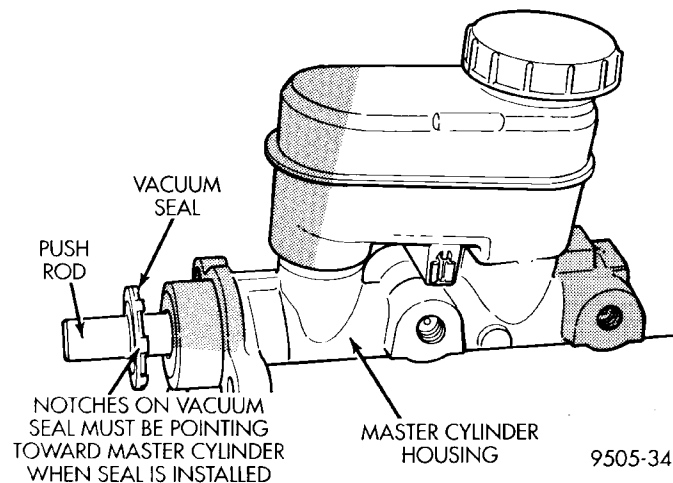
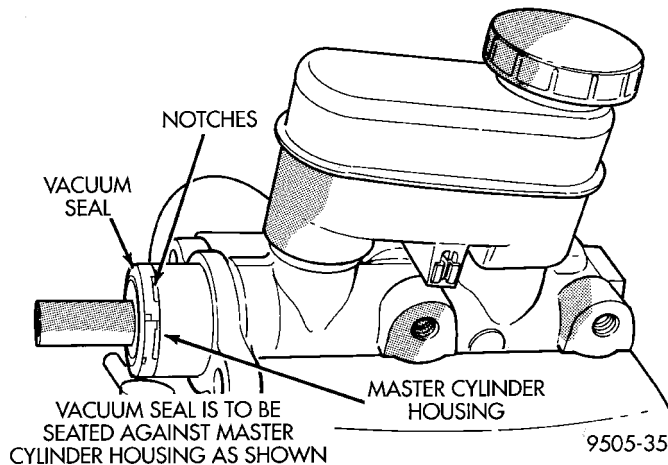

Fig. 21 Installing Vacuum Seal On Master Cylinder Push Rod
Fig. 22 Vacuum Seal Positioned For Installing Master Cylinder
(13) Install vacuum seal on master cylinder push rod as shown in (Fig. 21) with notches on vacuum seal pointing toward master cylinder housing. Then slide vacuum seal onto master push rod until seal is seated against master cylinder housing (Fig. 22) before installing master cylinder on power brake vacuum booster.